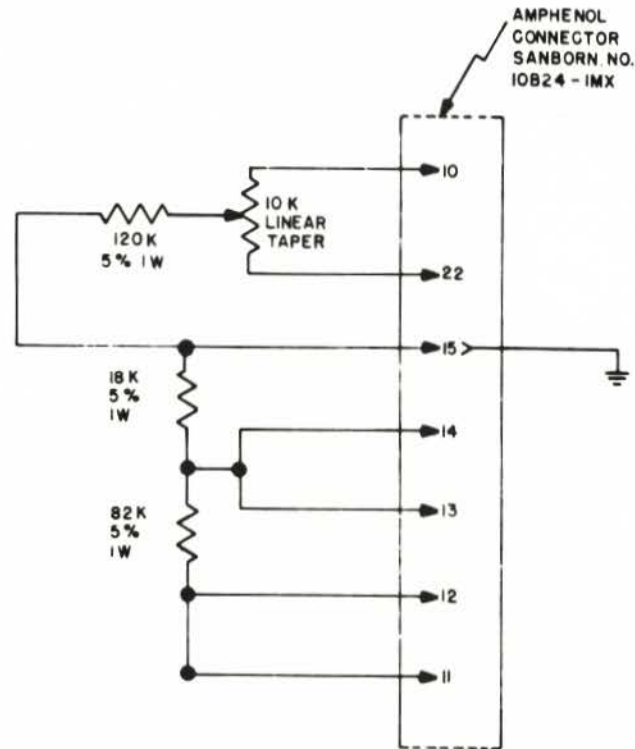

Figure 6. Dummy Preamplifier Schematic Diagram.
5. Check the Preamplifier by removing it from the Driver Amplifier, and replacing it with one which is known to be good. Turn the POSITION control of the replacement Preamplifier back and forth over its range. Figure 6 shows an alternate plug-in circuit which may be used if a replacement Preamplifier is not available.